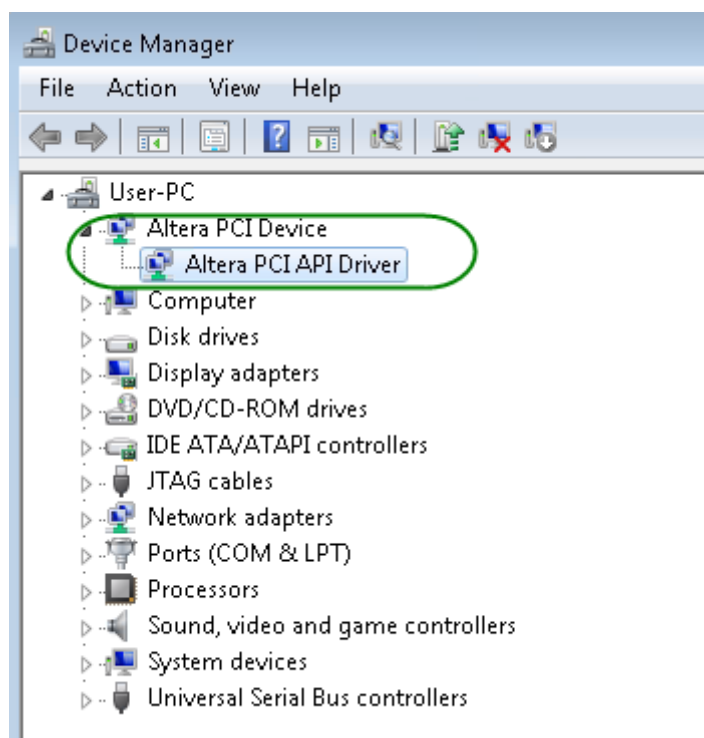

Figure 4-8 Altera PCI API Driver in Device Manager
12. Once the driver is successfully installed, users can see the **Altera PCI API Driver** under the device manager window, as shown in **Figure 4-8**.